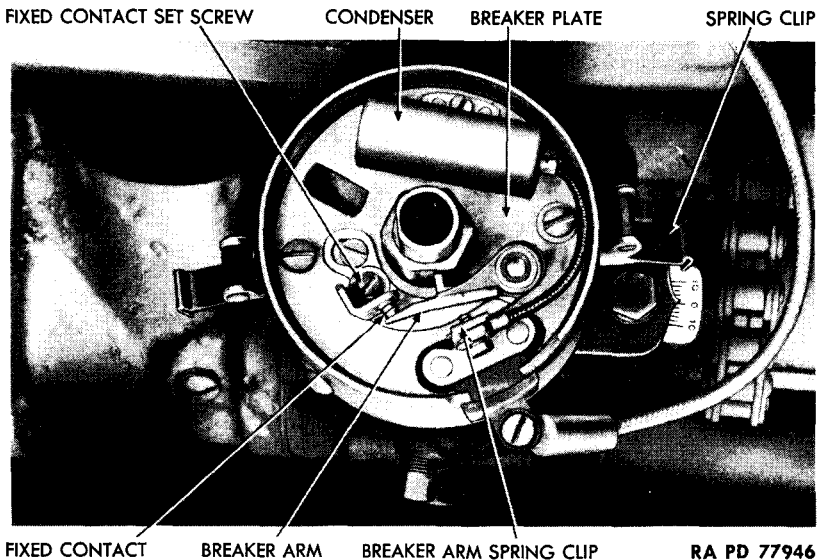

Figure 46 – Distributor With Cap and Rotor Removed
(1) **DESCRIPTION** (fig. 46). The automotive type distributor condenser is located on the distributor breaker plate, and can be reached through the splash shield opening under the left fender. The function of the condenser is to intensify the ignition spark.
(3) REMOVE CONDENSER FROM BREAKER PLATE (fig. 46). Remove screw and lock washer which attach condenser pig tail to breaker arm spring clip. Remove screw and lock washer which attach condenser to breaker plate, and lift condenser from distributor.
(1) INSTALL CONDENSER IN DISTRIBUTOR (fig. 46). Position condenser on distributor breaker plate. Install lock washer and screw which attach condenser to breaker plate. Connect condenser screw to breaker arm spring clip with lock washer and screw provided for the purpose. Place distributor cap in position on distributor, and engage both spring clips.
(2) TEST INSTALLATION. Start engine, and test operation.
(2) **CHECK AND ADJUST BREAKER POINT GAP** (fig. 46). Unsnap both spring clips, and lift cap and rotor from distributor. Rotate engine with hand crank until points are opened to widest gap, and measure gap. Correct measurement of gap is 0.020 inch. If it deviates by more than 0.002 inch from 0.020 inch, loosen fixed contact set screw, and move fixed contact until gap measures 0.020 inch. Tighten set screw, check breaker arm spring tension, and adjust if necessary (step (3) below). Install rotor and distributor cap.
(3) **CHECK AND ADJUST BREAKER ARM SPRING TENSION** (fig. 46). Hook a scale spring on breaker arm at contact, and hold scale at right angles to surfaces of contacts. Pull contacts apart, and observe scale reading. If not within the limits of 17 to 20 ounces, loosen screw which anchors breaker arm spring clip, and slide spring out or in to decrease or increase tension. Tighten screw and again check tension, repeating process until test shows 17 to 20 ounces of tension.
(4) **REPLACE BREAKER POINTS** (fig. 46). Unsnap spring clips, and lift cap and rotor from distributor. Remove breaker arm and condenser wire screw, and lift breaker arm from pivot. Remove fixed contact set screw, and lift out contact plate. Place new contact plate in position, and install fixed contact set screw fingertight. Place breaker arm in position on pivot. Install breaker arm and condenser wire screw. Adjust breaker arm spring tension, and adjust breaker point gap. Install rotor and distributor cap.